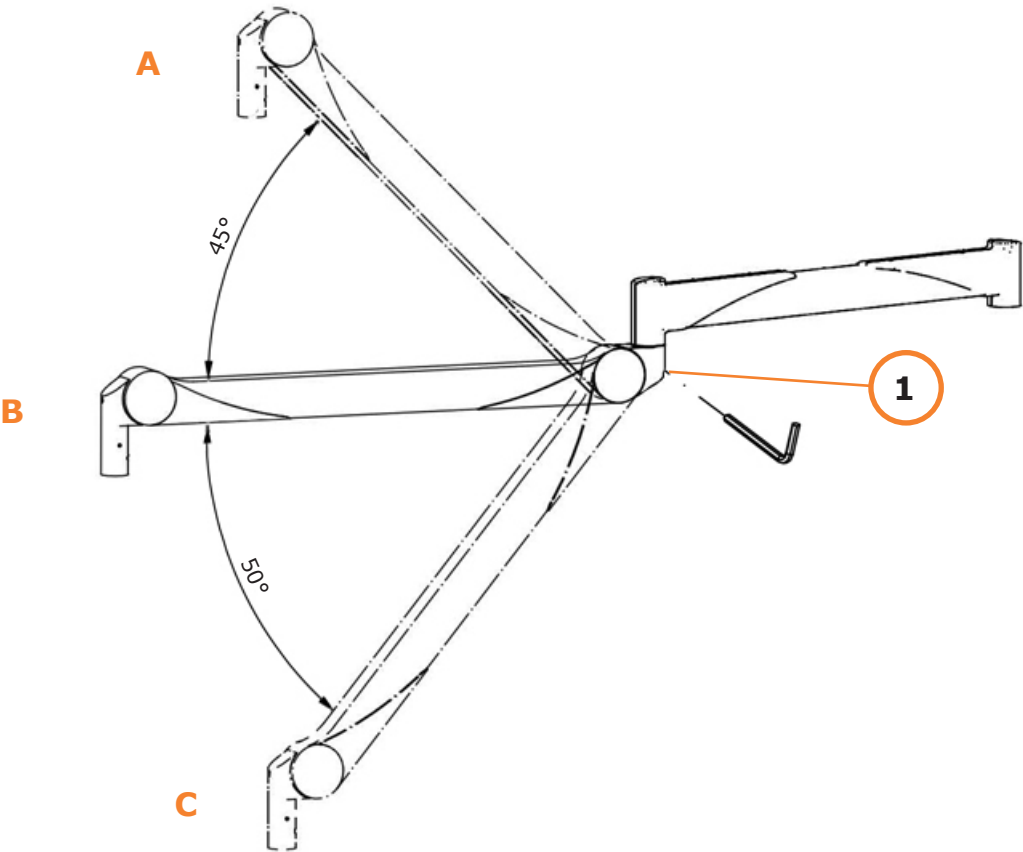
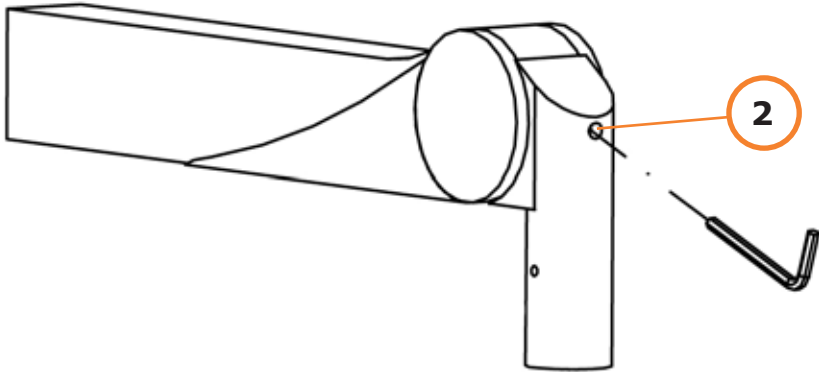

Fig. 29
Fig. 30
- 10.3.1 Using a 5 mm Allen wrench insert it into the weight adjustment slot at the back end of the spring arm (extension arm/spring arm joint, 1/ Fig. 29). Turn the wrench either left (counter-clockwise) or right (clockwise) to adjust the weight.
- 10.4.1 The spring arm section of the Portegra2 suspension arm can be pulled downwards 50° and moved upwards 45° (Fig. 29). The upper movement of the spring arm can be limited to any point from 0° to 45° by adjusting the arm spring at the upper vertical adjustment slot (2/ Fig. 30).